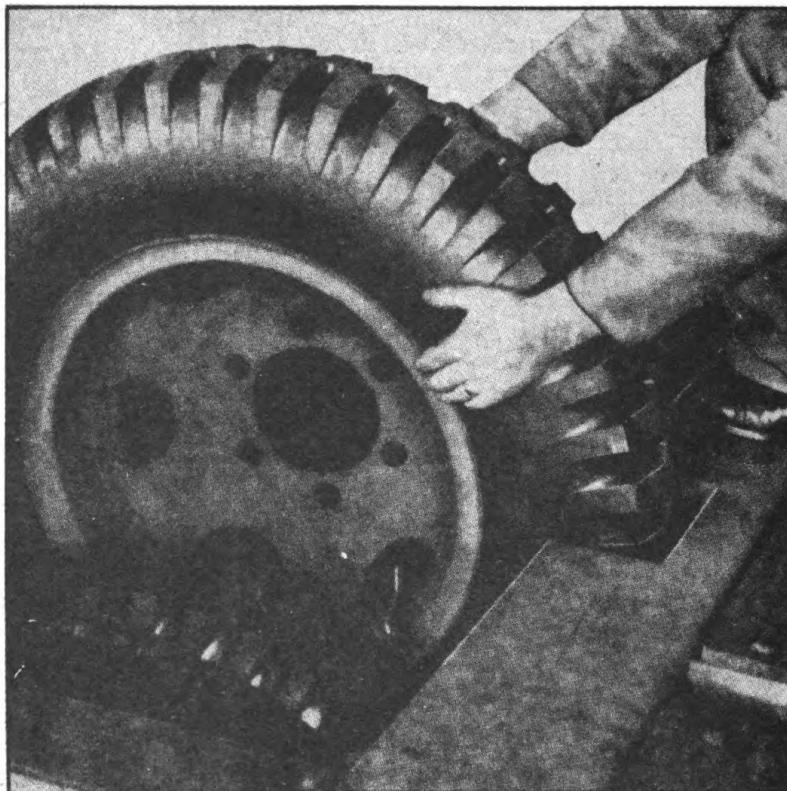

FIGURE 73. REMOVAL REAR INNER TIRE ASSEMBLY
4. INNER WHEEL ASSEMBLY, REAR AXLE (Figure 73).—a. *Removal.*—(1) When removing inner wheel assembly, it is necessary to remove the two tire assemblies prior to removal of hub assembly.